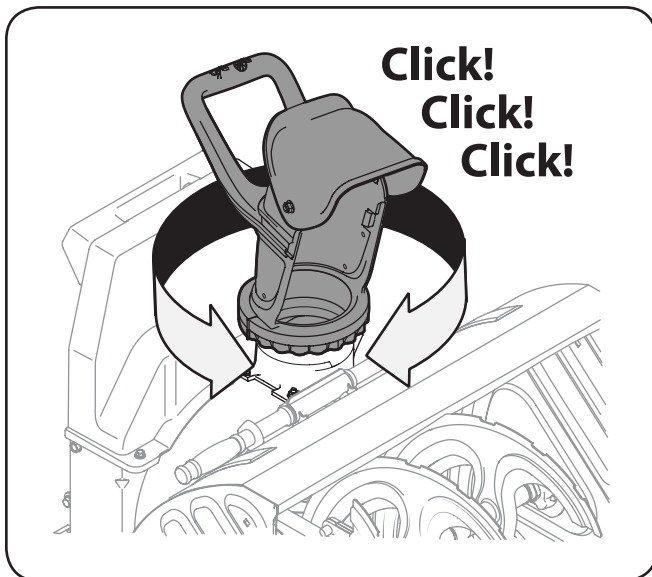

Figure 3-6
**Note:** If the installation has been completed properly, a click! click! click! sound will be heard when rotating the chute to the left and right. See Figure 3-6.